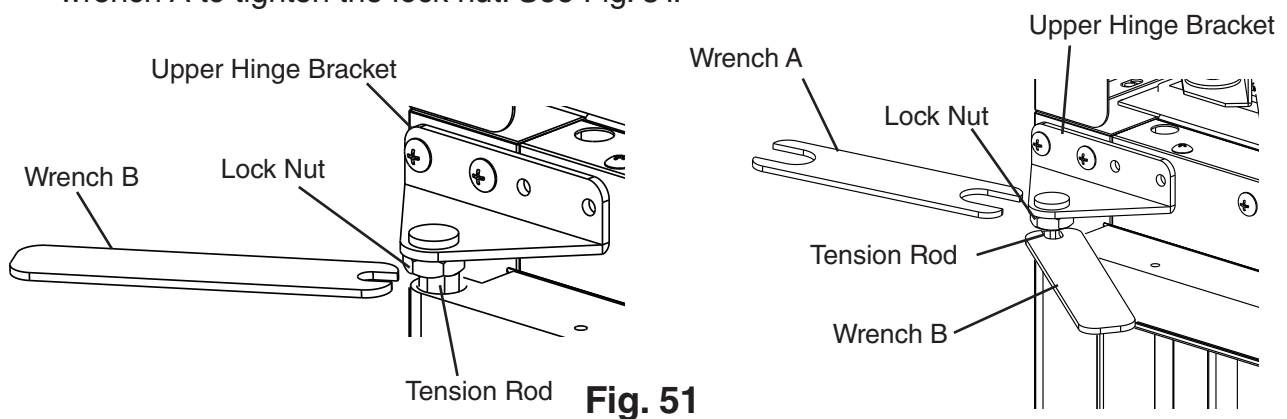

Fig. 51
- 21) Place wrench B on the tension rod and rotate counter-clockwise to add tension to the tension rod. Without releasing the pressure on wrench B and the tension rod, use wrench A to tighten the lock nut. See Fig. 51.